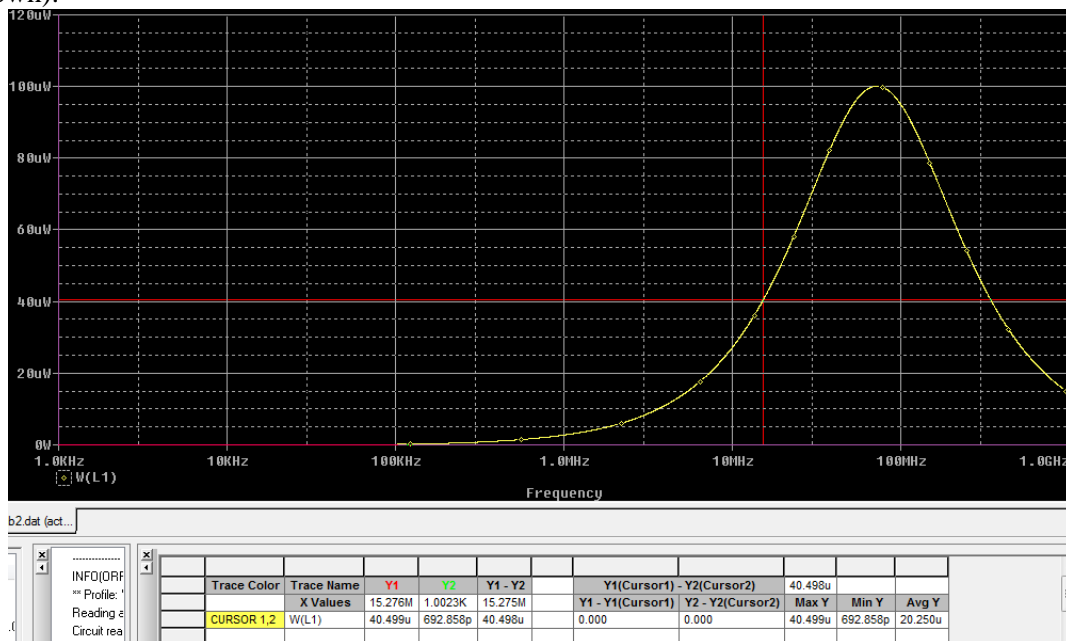

Figure 5. Toggle the cursor on in order to display values on the plot.
24. A cursor can be used to check the value of a point on the plot by clicking “Toggle cursor” . The value where the cursor is will be displayed as shown in Figure 5 (for an arbitrary plot not the circuit shown).